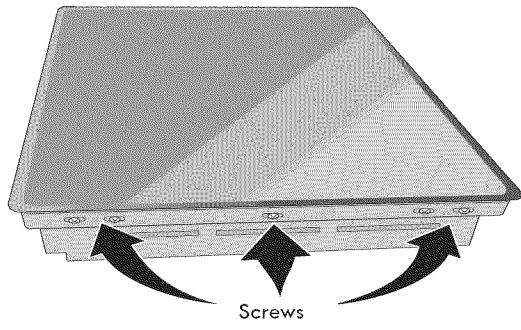

Figure 8
1. Visually inspect the cooktop for damage. Also make sure all cooktop screws are tight (see Figure 8).